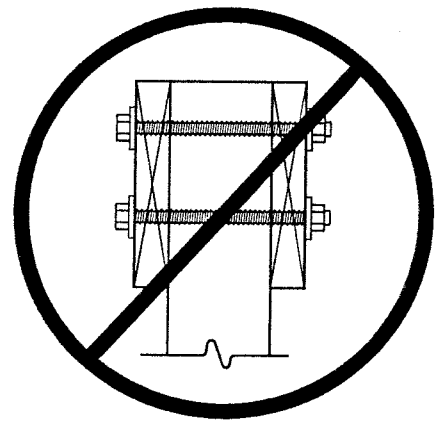
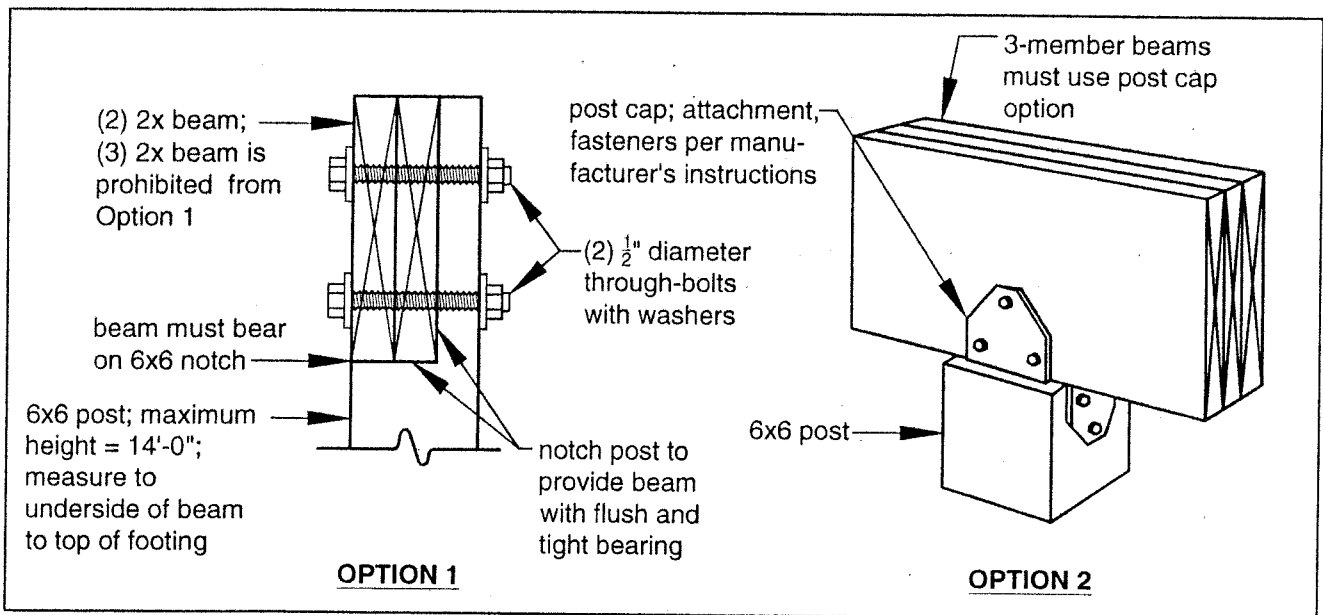

FIGURE 9: PROHIBITED POST-TO-BEAM ATTACHMENT CONDITION
FIGURE 10: POST-TO-BEAM CONNECTION OPTIONS
All deck posts shall be 6x6 with a maximum height of 14'-0" measured from the top of the footing to the underside of the beam. The beam shall be attached to the post by one of the two methods shown in FIGURE 10. Attachment of the beam to the side of the post without notching is prohibited; see FIGURE 9
The post cap shown in FIGURE 10, Option 2, shall be specifically designed for (2) 2x or (3) 2x beams and 6x6 posts with a minimum downward allowable load capacity of 5,000 lbs. Attachment shall be per manufacturer's instructions. Post caps shall be galvanized per the requirements on Sheet 6.